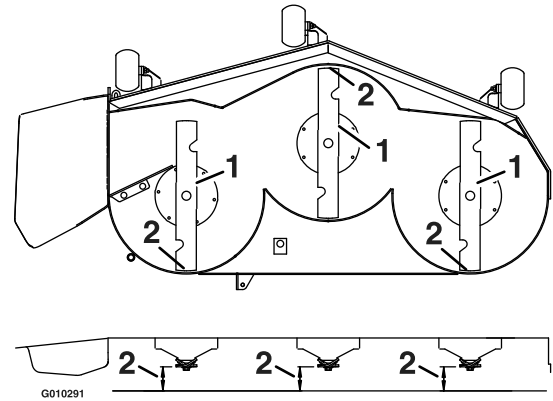
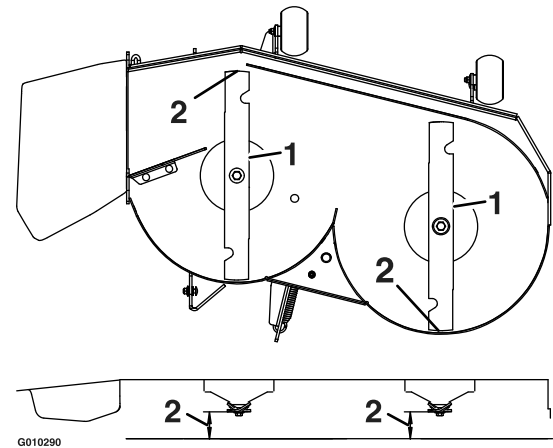

Figure 27
Figure 28
8. Carefully rotate the blades so they are facing front to rear (Figure 27 and Figure 28).
9. Measure from the tip of the front blade to the flat surface and the tip of the rear blade to the flat surface (Figure 27 and Figure 28). If the front blade tip is not “R” (see Block Height and Rake Table in **Deck Leveling**) lower than the rear blade tip, adjust the front deck hanger.